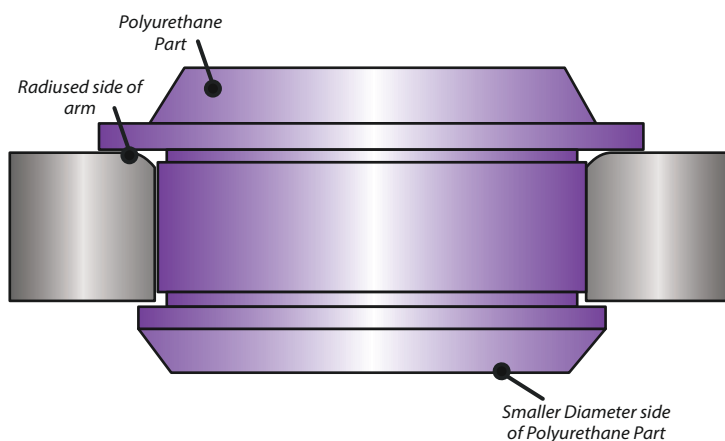

Figure 1
3. Press in the polyurethane bush with the smaller diameter being pressed into the radiused opening of the wishbone. This will mean the larger diameter of the polyurethane bush will sit flush against the radiused side of the arm, as shown in Figure 1.